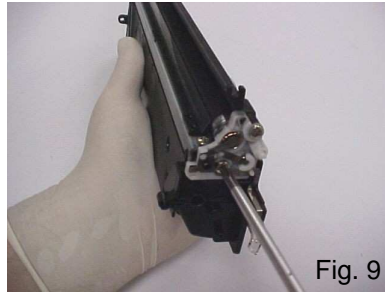

Fig. 9
11. Remove the two screws that fasten the contact end cap to the toner hopper (Fig. 9).